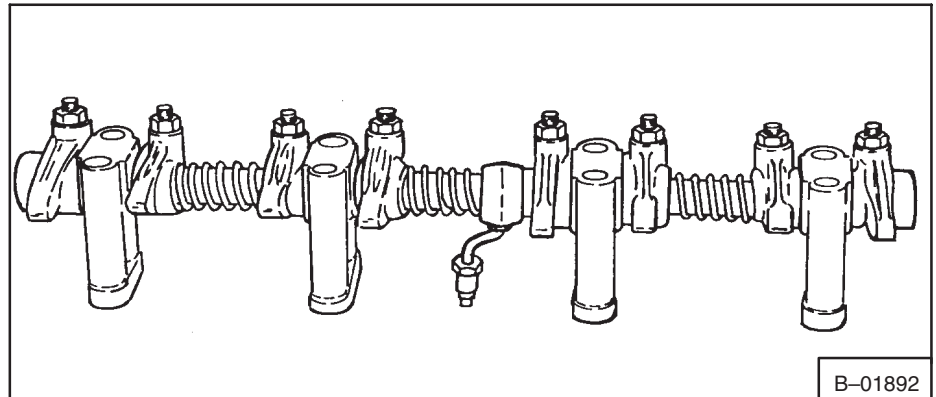

Fig. 7-15 Rocker Shaft Assembly
2. Install the rocker levers, springs and support brackets in the opposite order to which they were removed. Lightly oil the components during re-assembly and ensure that each rocker lever does not bind on the shaft. The assembly should now be as shown in figure 7-15.